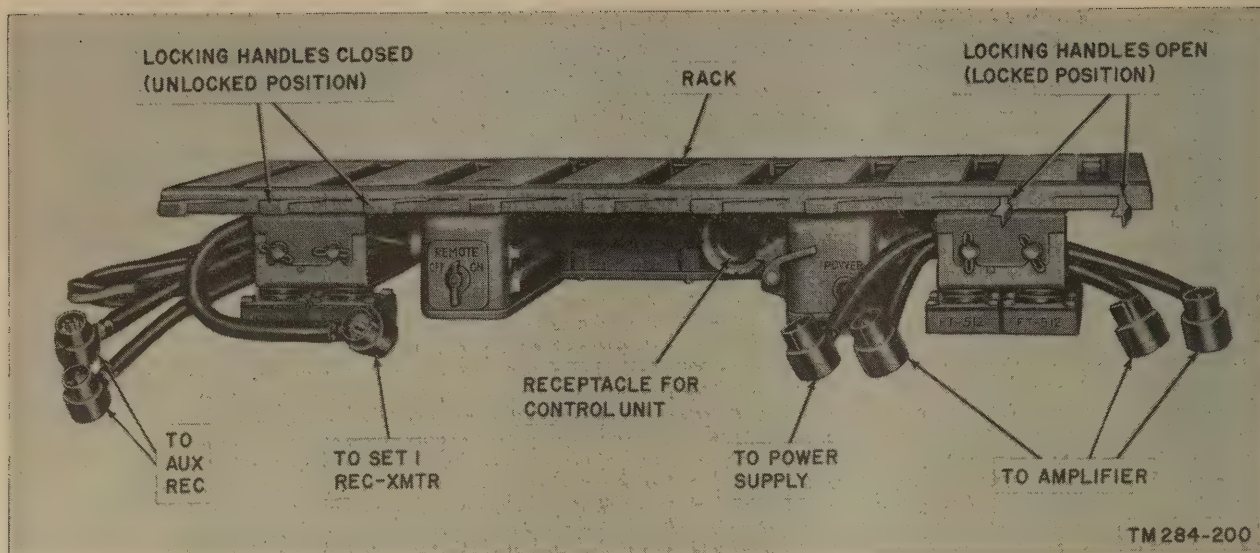

Figure 9. Mounting MT-297/GR.
e. In vehicular installations, the receiver-transmitter is installed on Mounting MT-297/GR (fig. 9) and is powered by a vehicular power supply, such as Power Supply PP-112/GR. Auxiliary operation of the receiver-transmitter (ch. 6) is possible through use of a battery box and a hand generator.
a. Mounting MT-297/GR (fig. 9) serves as a support for the major units of the radio sets and as a junction box for interconnecting various units. Figures 1 and 19 demonstrate the dual functions of the mounting.
b. At either end of the mounting are two shock-mounted supports which normally are bolted to a vehicular mounting surface. A hinged mounting table is secured to these supports and a junction box is suspended from the under surface of the table near the center of the unit (fig. 9).